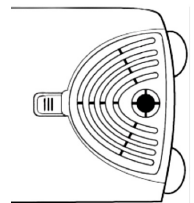
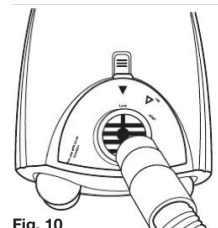

Fig. 9
Fig. 10
1. Lift up and unlock the Exhaust Grill (18) tab and click out the Exhaust Grill (Fig. 9).
3. To insert the Blower Port (8) into the exhaust outlet, align the lower tabs of the Blower Port with the slots of the exhaust outlet. Push on the top of the Blower Port and press until it snaps into place.
4. To attach the Flexible Hose (6) to the Blower Port, align the Flexible Hose and turn right until it locks. The Flexible Hose is now securely in place (Fig. 10).